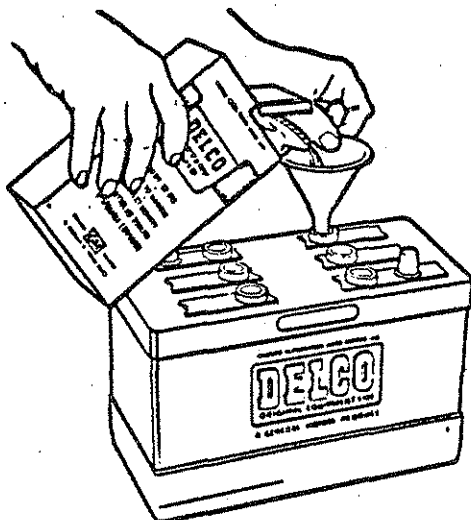

Figure 3 — Pouring Electrolyte Into Battery
5. Using a glass or acid-proof plastic funnel, fill each battery cell with electrolyte as shown in Figure 3. Do not use a metal funnel for filling the battery.